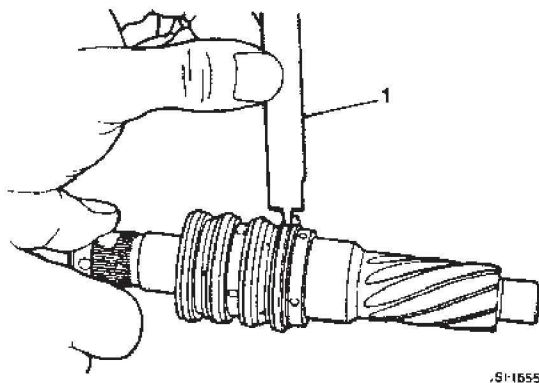

FIG 7
Cut and remove the P.T.F.E. sealing rings from the pinion valve (Fig. 7). Ensure the valve walls are not marked or scored whilst carrying out this operation.
**Note:** A suitable tool can be made by grinding a broken hacksaw blade to a narrow chisel shape (1 Fig. 7).